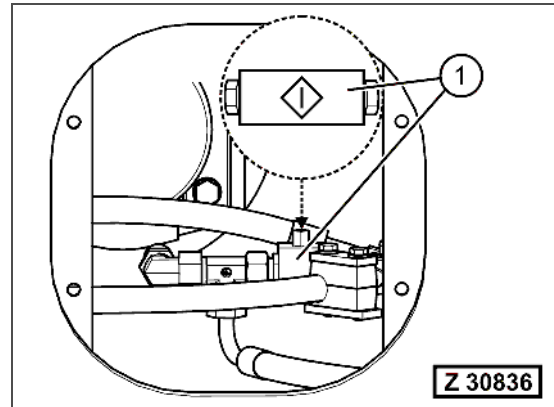

Fig. 4-30
6. Close the ball cock (Fig. 4-30, Pos. 1) behind the service opening.